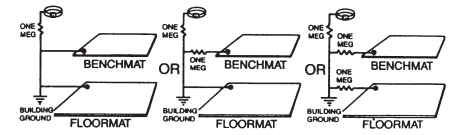

Figure 14. Proper wiring diagrams for conductive and dissipative ESD workstations.
8. Your completed installation of a Vermason ESD workstation should comply with one of the electrical diagrams illustrated in Figure 14.